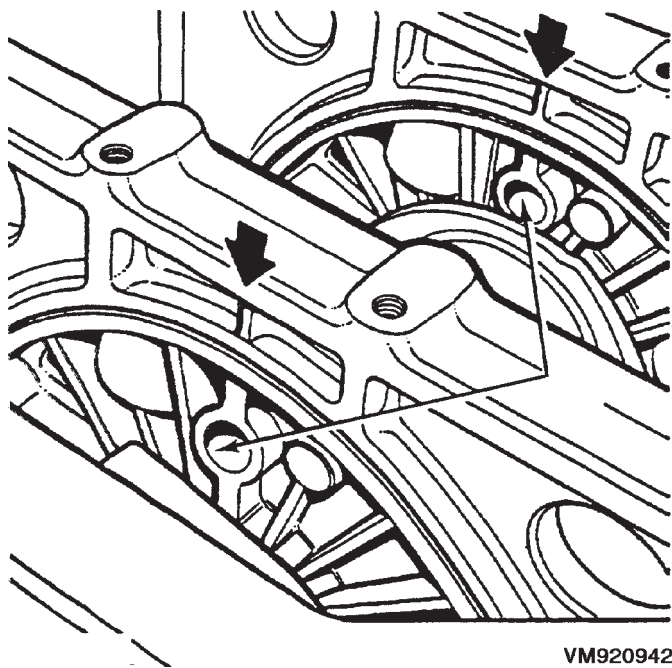

Fig. 114 Main Bearing Support Alignment
(6) Thoroughly clean crankcase and oil passages, and blow dry with compressed air.
(7) Install new main bearing shells in each of the carrier halves. Assemble the carriers to the crankshaft journals, ensuring that the carriers are installed in their original locations. Secure each carrier with the two bolts tightening evenly to 44 N·m (32 ft. lbs.).
(8) Slide special tool VM.1004 over the crankshaft gear and, insert the crankshaft and support assembly into the crankcase in the same manner used for removal.
(9) Align the holes in the lower supports, with the center of the crankcase webs (Fig. 114).